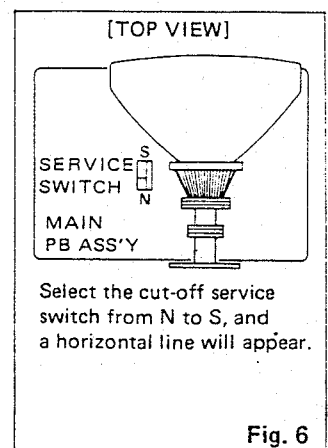

Fig. 6
4. Select a service switch as shown in Fig. 6.
8. Return a service switch to normal position. (Fig. 6)